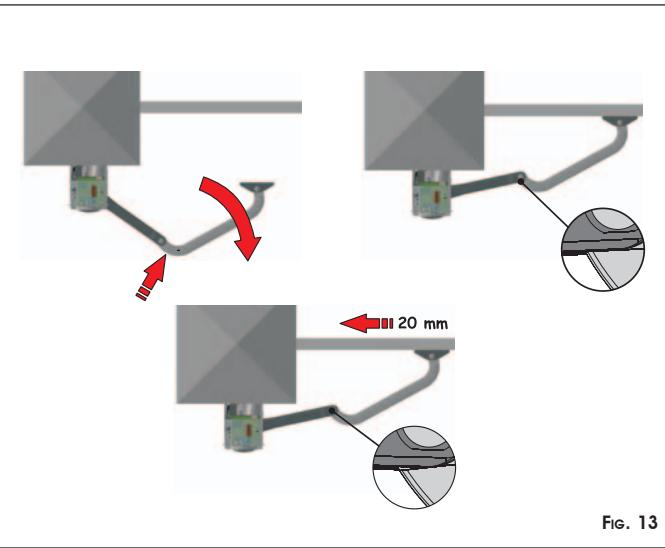

Fig. 13
- ⑧ Align the arms you have just assembled, pushing in the central zone until they stop, see Fig. 13 ref. ①.
- ⑨ Rest the front bracket on the leaf, Fig.13 ref. ②.
⑩ Move back the front bracket by about 20 mm and mark the securing holes, Fig. 13 ref. ③.
- ⑪ Secure the bracket in the established position using two M8 screws.
- ⑫ Move the bracket by hand and - with the leaf in closing position - make sure that the two arms do not impact each other, as shown in Fig. 13 ref. ②.
- ⑬ Take the operator back to the work position - see paragraph 7.